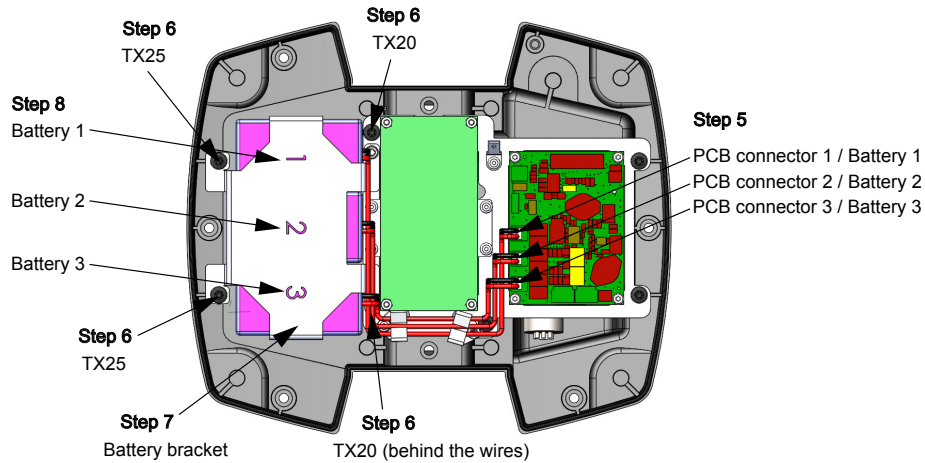

Figure 12: Installing G-1 Wash batteries IV
5. If replacing batteries disconnect them from the PCB by removing the three connectors - see figure 12. If installing batteries to a base without batteries, skip step 5 to 7.
6. Remove four screws, to release the battery bracket (two TX25 and two TX20) - see figure 12. If necessary, remove wire clips and wires to access the screws.
7. Remove the bracket holding the batteries in place. If replacing battery/batteries, subsequently take out the battery/batteries - see figure 12.
8. Install or replace the new battery/batteries - see figure 12.